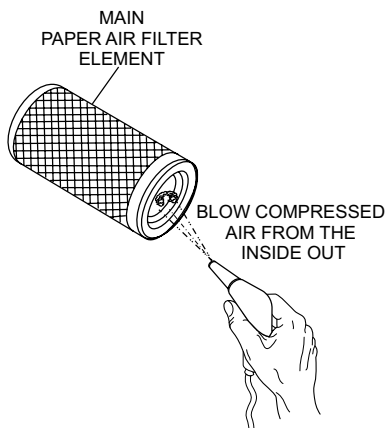

Figure 20. Cleaning Paper Air Filter Element
- To clean the main element (paper air filter) as referenced in Figure 20, tap the filter element several times on a hard surface to remove dirt, or blow compressed air (not to exceed 30 psi (207 kPa, 2.1 kgf/cm²) through the filter element from the inside out.